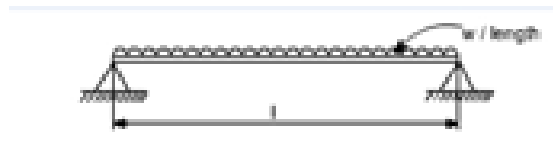

Figure 1
- (b) Using conjugate beam method find slopes at ends and central deflection for a simply supported beam shown in Figure 1. Plot SFD and BMD. [7M]